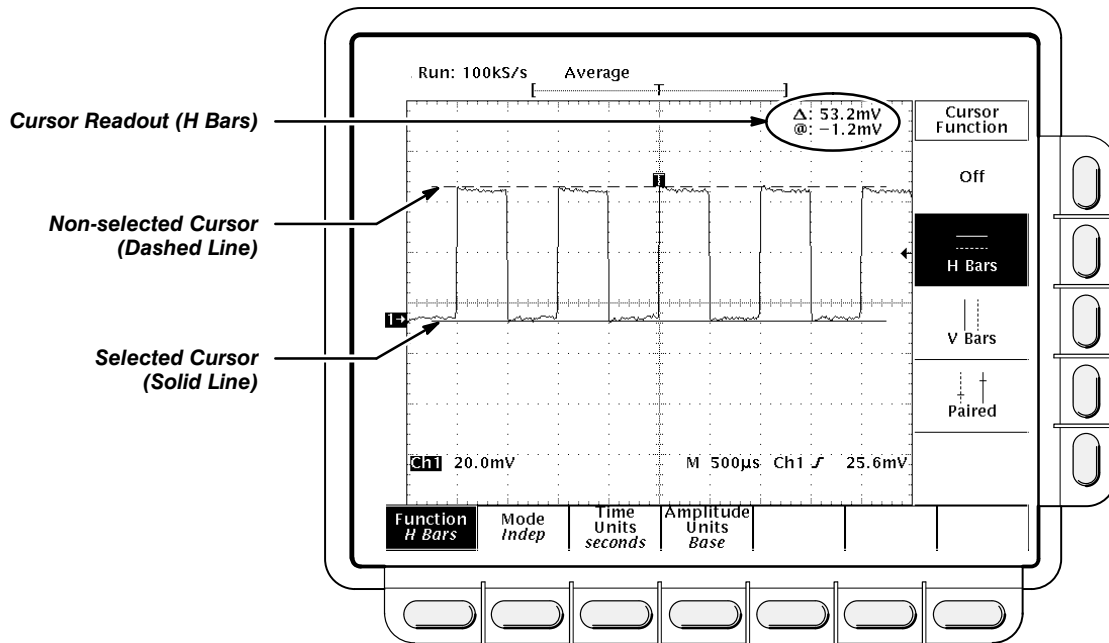

Figure 3-10: H Bars Cursor Menu and Readouts
- **H Bars:** the value after  $\Delta$  shows the voltage difference between the cursors. The value after @ shows the voltage of the selected cursor relative to ground (see Figure 3-10). With the video trigger option, you can also display the voltage in IRE units.
To take cursor measurements, press **CURSOR** to display the Cursor menu (Figure 3-10).